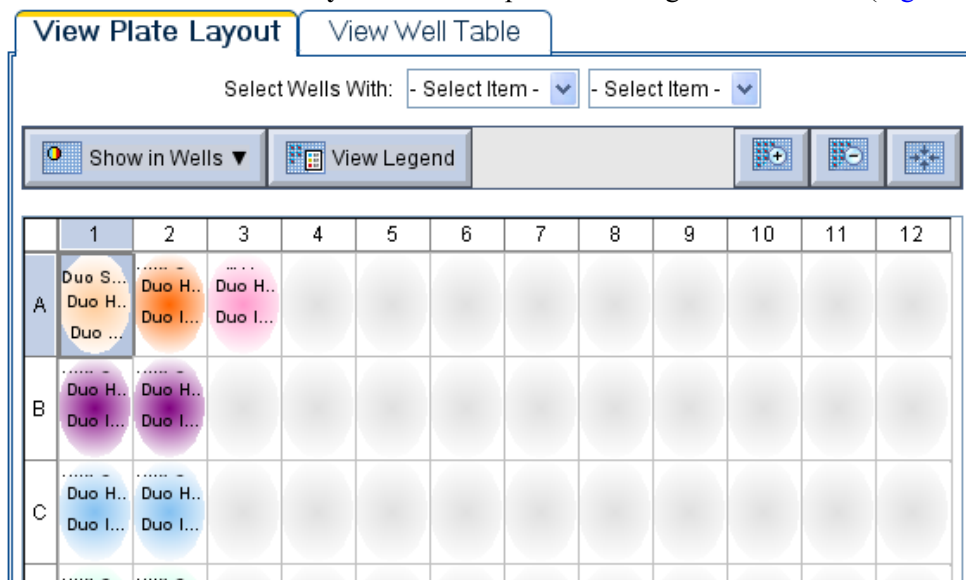

Figure 9 Plate layout area
1. Select the **View Plate Layout** tab in the pane on the right of the screen (Figure 9).